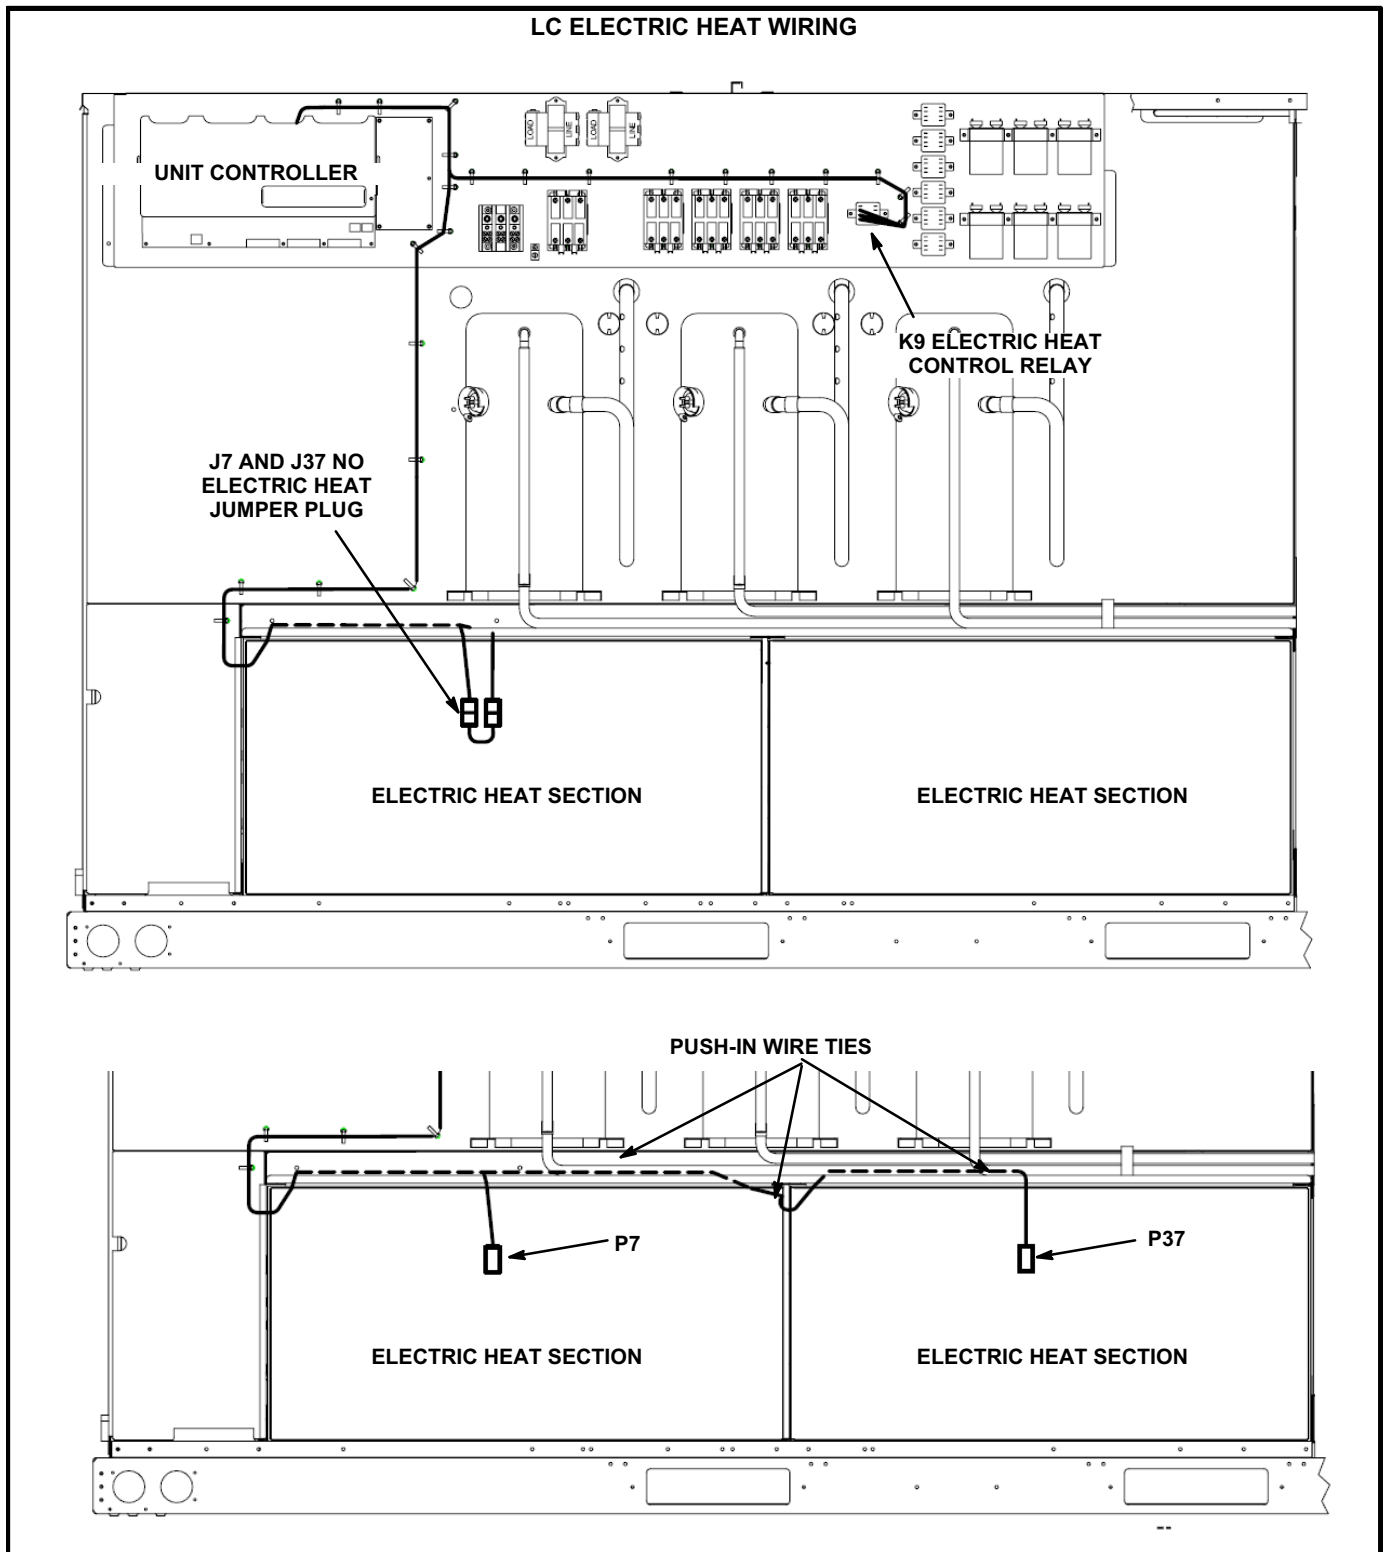

FIGURE 3
Refer to figure 3 or 4.
- 1- Locate and disconnect J7 and J37 jumper plug from harness. See figure 3.
- 3- Route P37 to the right heat section as shown in figure 3 or 4.